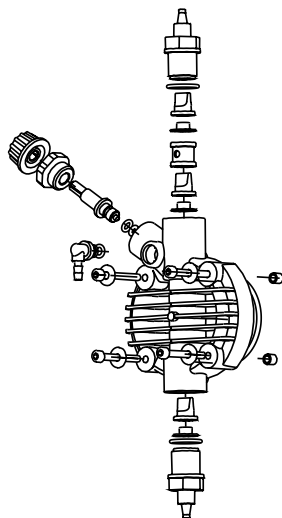

Fig. 10
- the additive concentration in the pipework; a reduction of this concentration could be caused by the wearing of the valves, in which case they need to be replaced (Fig. 10) or by the clogging of the filter which then has to be cleaned as in point 3 here below.
This operation can also be done with the pump disconnected from the plant by turning the pump upside-down for 15 to 30 seconds and without connecting the hose to the nipples; if impossible, dismount and remount the pump head (Fig. 10) using the four mounting screws.
Very rarely there may be losses caused by the breakage of the membrane, or by the membrane seals in which case they have to be replaced by disassembling the four screws of the pump head (fig. 10), when re-mounting the pump head ensure that the screws are replaced properly, along with "O" ring.
❶ - THE METERING PUMP GIVES PULSES BUT THE ADDITIVE IS NOT INJECTED
- a. Dismount the suction and discharge valves, clean them and replace, see position (fig. 10). Should the valves be swollen, check valves material against our chemical resistance compatibility chart and fit correct valves. Standard valves are Viton. Upon request ball check valve, can be supplied.